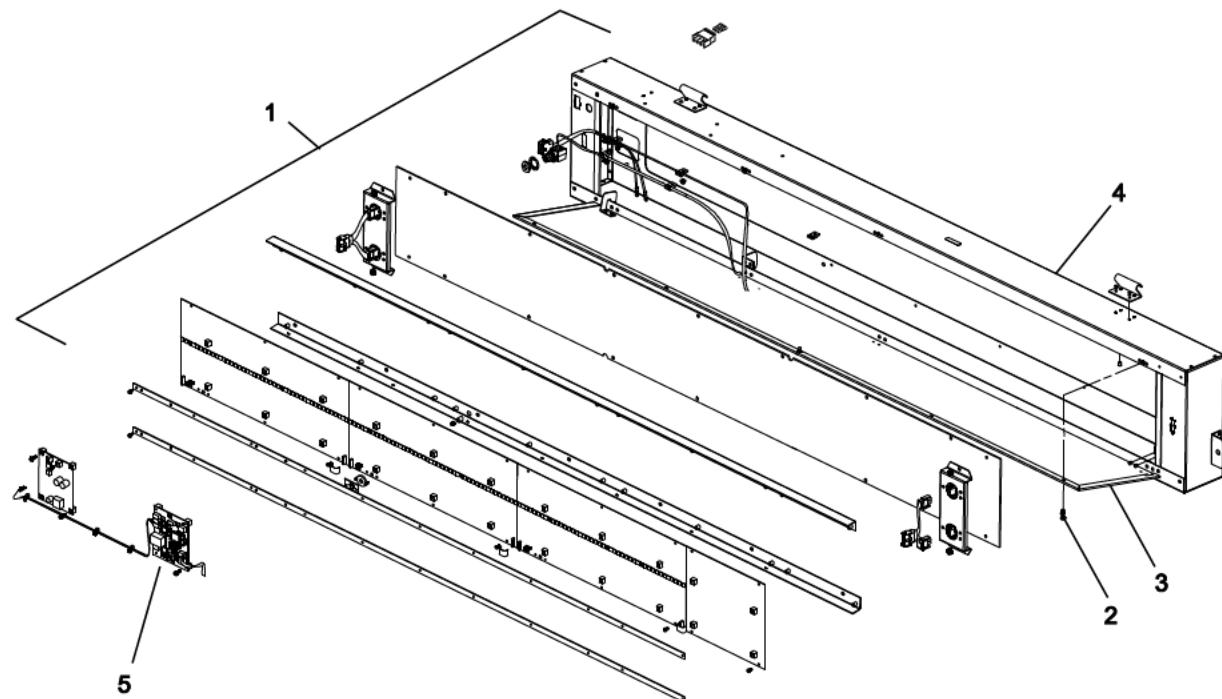

Figure 7-12: Replace Front Destination Sign Control PCB
1. Remove front destination sign assembly (1, Figure 7-12) from its mounted location.
2. Remove ten 6-32 x 5/16 SEM screws (2) that secure backplate assembly (3) to front panel assembly (4).
3. Carefully separate backplate assembly (3) from front panel assembly (4) to access electrical wiring and harnesses.
4. Tag and disconnect electrical wiring connectors from the control PCB (5).
5. Remove control PCB (5).
6. Install replacement control PCB (5) with RS-485 ports to the left.
7. Connect electrical wiring connectors to the control PCB (5).
8. Install the backplate assembly (3) to the front panel assembly (4) using ten 6-32 x 5/16 SEM screws (2).